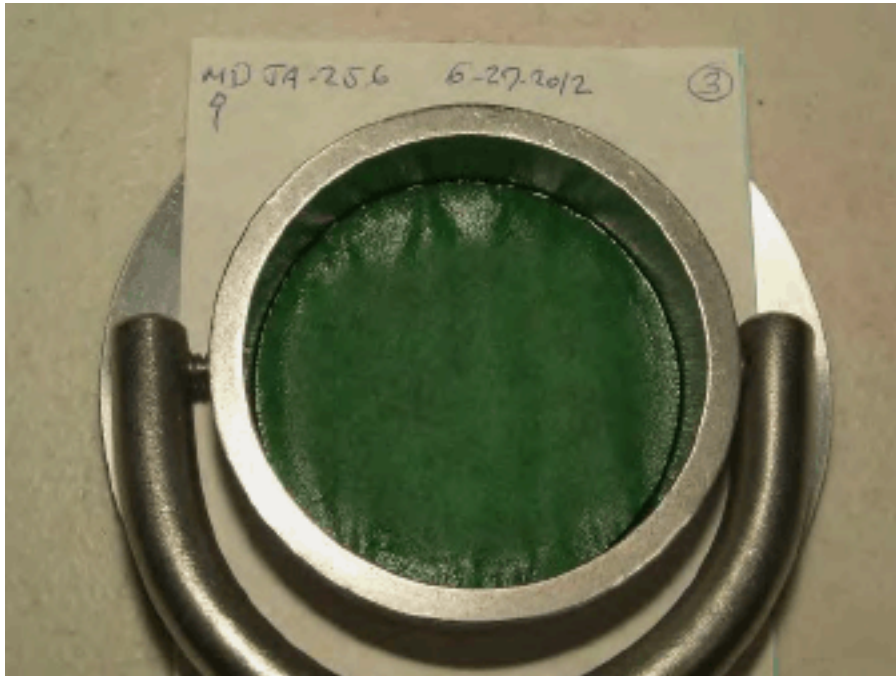

Figure 2-2: The operator is pouring the 10-mL of test ink onto the sample and simultaneously pressing the **Test** button to begin the test.
10. Pour 10 ml of test ink ⁽¹⁾ on the sample and simultaneously press the **Test** button. The "**Testing**" light will illuminate. See **Figure 2-2**.